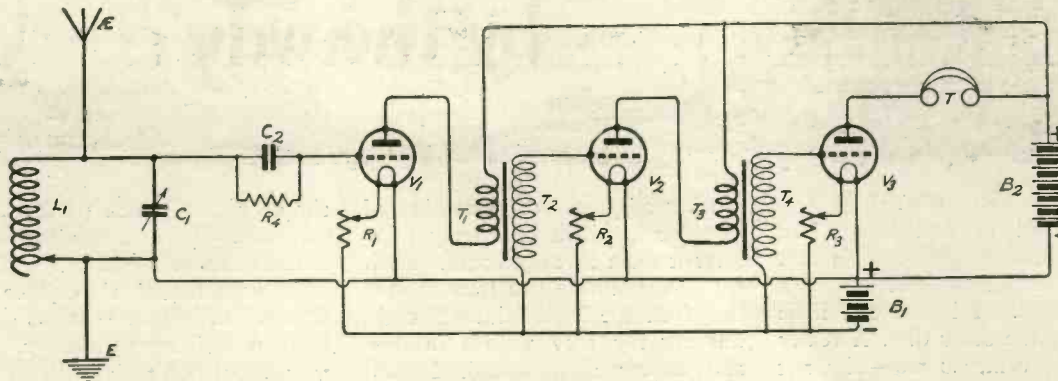

Fig. 2.—A valve detector followed by two stages of L.F. amplification.
Fig. 2 shows the circuit. The first valve acts as a detector on the leaky grid condenser principle, while the second and third valves act as low-frequency amplifiers.
**What are the advantages of a Circuit of the Fig. 2 type?**